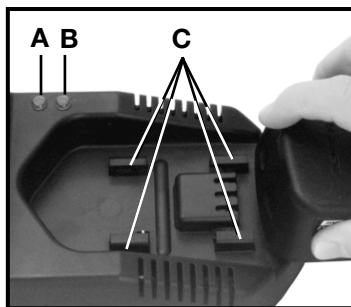

Fig. 12
Position the battery pack on charger, align rails on battery pack (A) Fig. 13 with four tabs (C) Fig. 12 on charger. Slide battery forward on charger until it stops.
The green light (A) Fig. 12 should begin to flash rapidly indicating that the battery pack is receiving a "fast charge". (If the green light does not flash or if the red light (B) illuminates, see DIAGNOSTICS"). After approximately one hour, the "Fast Charge" indicator light should glow continually, indicating that the battery pack is fully charged and that the charger is now in a "Maintenance Charge" mode. The battery pack can be left on "Maintenance Charge" until you are ready to use it.
If no problems are found, the charger will automatically switch to “Fast Charge” mode as described in NORMAL CHARGING. If a problem is found, it will be indicated by the charger indicator lights (see Fig. 12), as follows: